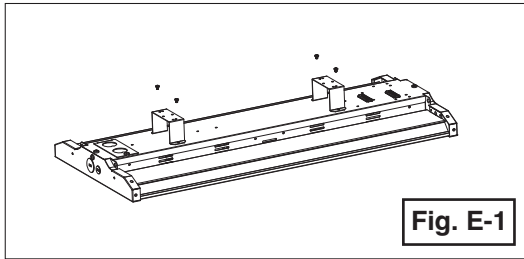

Fig. E-1
1. Install the mounting brackets to the fixture by using the 4 screws. (Figure E-1)